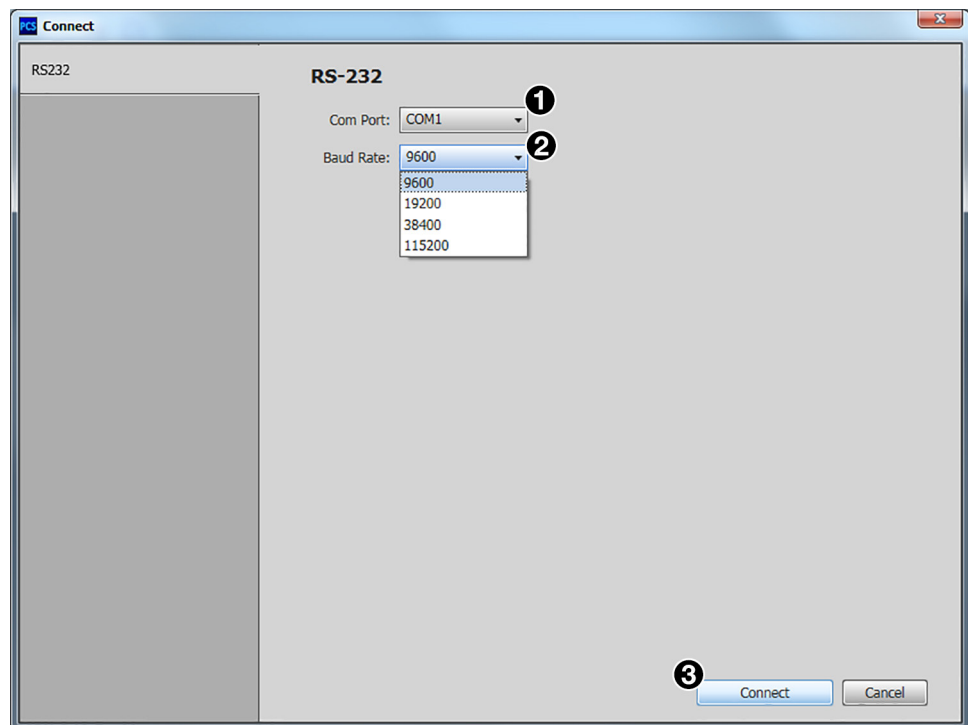

Figure 28. RS-232 Connection Window
7. From the Com Port drop-down menu (see figure 28, ①), select the com port on your computer to which the USB Extender Plus is connected.
8. From the Baud Rate menu (②), select the baud rate for your RS-232 connection (the default is 9600).
9. Click the **Connect** button (③) at the bottom of the screen. The **Device Settings** screen for your USB Extender Plus opens, showing all the current extender settings.